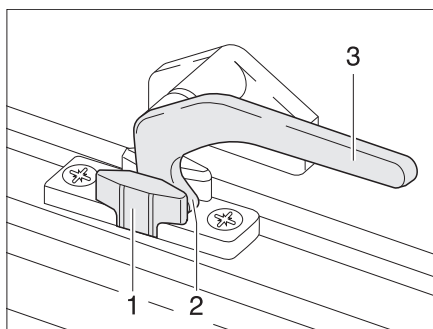

Fig. 15 Catch lever in the "continuous ventilation" position
- "Continuous ventilation" (Fig. 15)
- Turn the catch lever (Fig. 15,3) a quarter turn towards the centre of the window.
- Turn the catch lever a quarter turn towards the window frame. The locking catch (Fig. 15,2) has to be moved into the recess of window catch (Fig. 15,1).